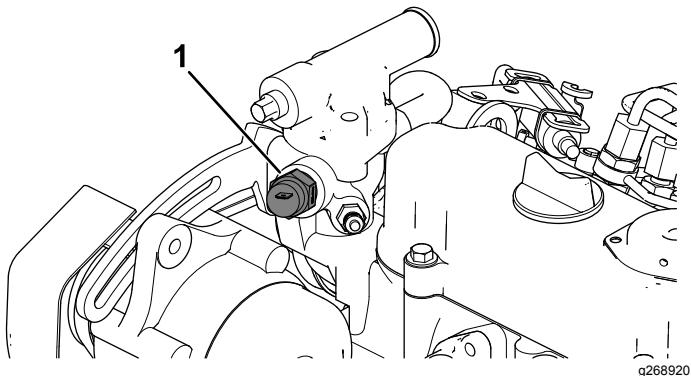

Figure 14
A. Remove the temperature switch from the thermostat housing (Figure 14).